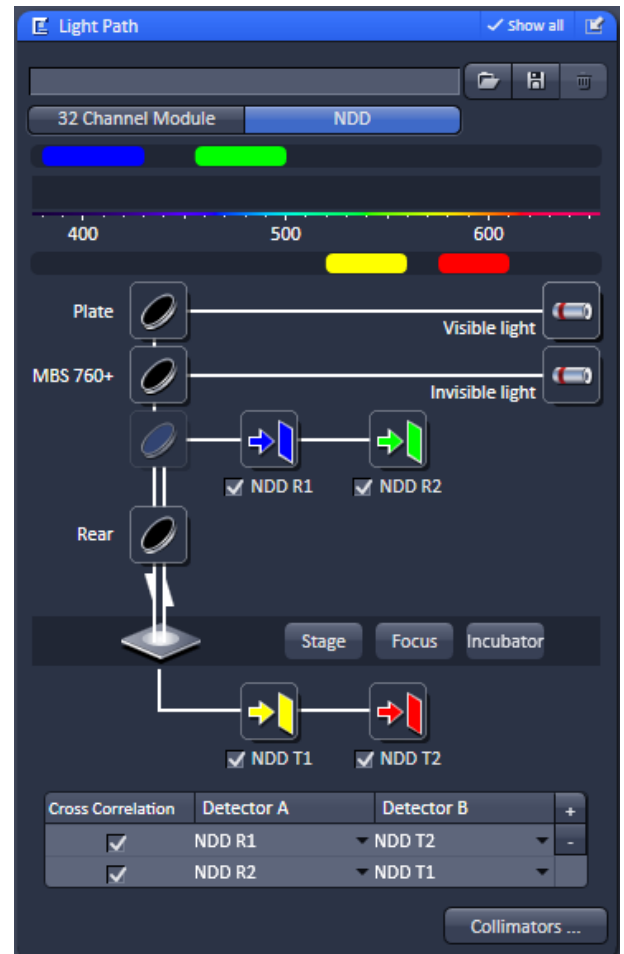

Fig. 262 Light Path tool for the BiG.2 on NDD port
- Click on the MBS icon to open a list of dichroics (Fig. 262).